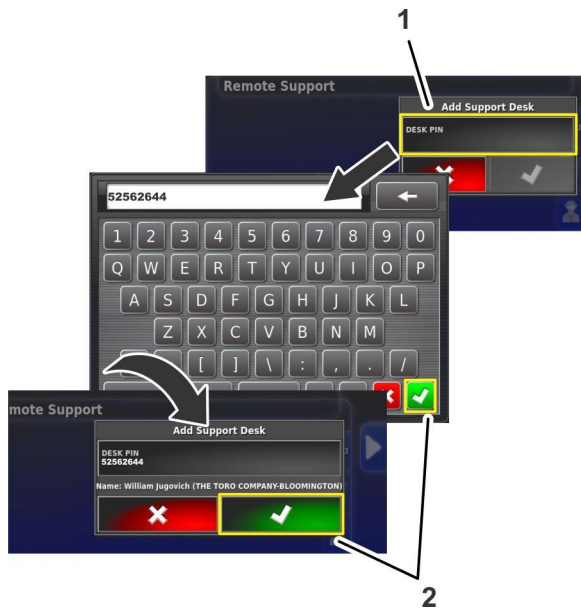

Figure 213
4. Press the DESK PIN icon (Figure 213).
5. Use the on-screen keyboard to type the desk PIN code you recorded in step 1, and press the confirm icon (Figure 213).
6. In the Add Support Desk screen, press the confirm icon (Figure 213).